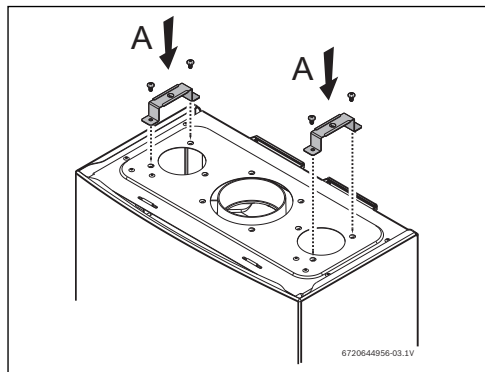

Fig. 13
- ▶ 1. Attach the supports (A) to the appliance by fastening with the four provided screws, as shown in Fig. 13.